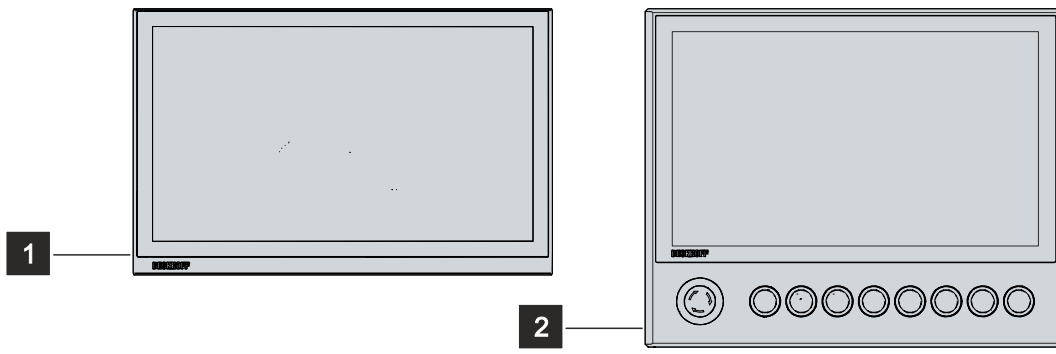

Fig. 1: Without and with push button extension
For explanations of the push button extension and the functions, refer to the C9900-G0xx manual. Figure 1 shows an example of a panel PC without (1) and with (2) push button extension.